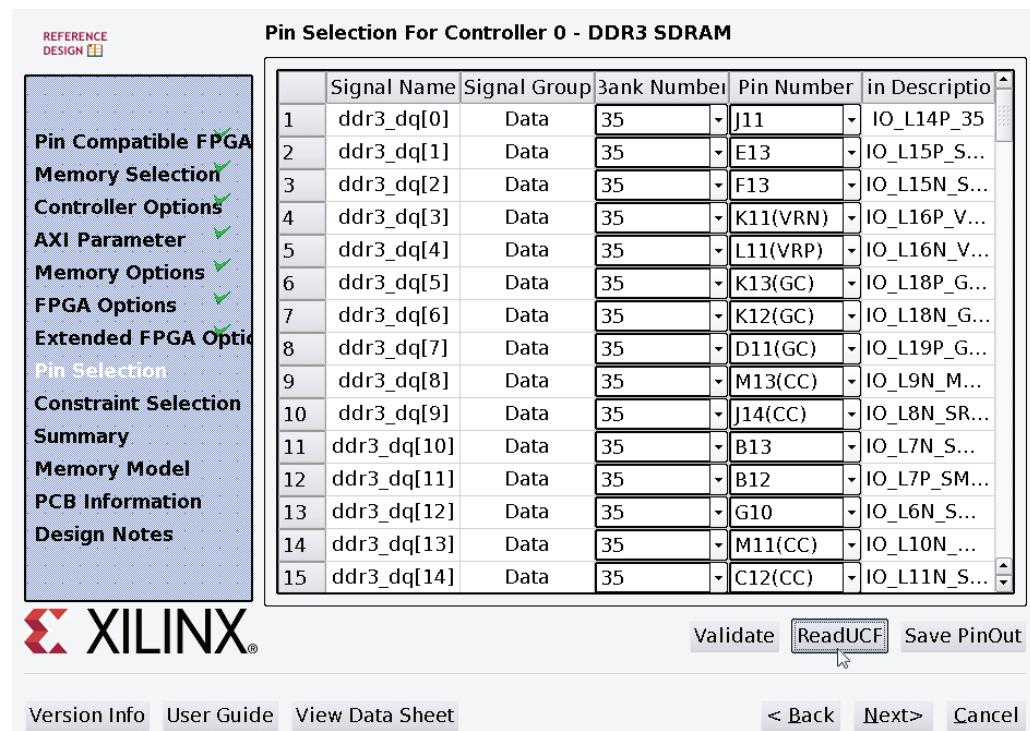

Figure 35: MIG Pin Selection Using an Existing Pinout
22. For the Pin Selection settings, the user would normally use the pull-down menus in the GUI to enter the pinout information for I/Os required by the memory interface. For this design, click **Read UCF** and enter the name of a file pre-generated for the ML605 board to save time from entering each pin location, resulting in Figure 35.